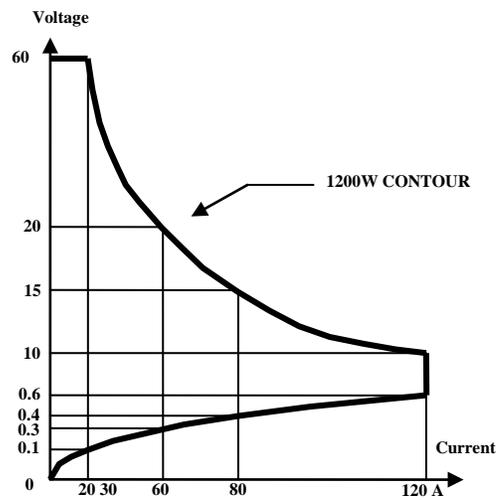

Fig 1-1 3350F Power Contour
The 3350F Series electronic load can be operated for manual and GPIB operation. The power contour of 3350F 1200 Watts Electronic Load is shown in Fig 1-1~1-6, it has an input from 0-120A, and 0 -60V current and voltage operating range respectively. The power contour of 3350F series. The prodigit 3350F Series high power electronic Load can be controlled locally at the front panel or remotely via computer over the GPIB/RS-232C/USB/LAN. Current (CC) mode, Constant Resistance (CR) mode, and Constant Voltage (CV) mode. and Constant Power (CP) mode. The wide range dynamic load with independent rise and fall current slew rate and analog programming input with arbitrary wave-form input is available in Constant Current mode.